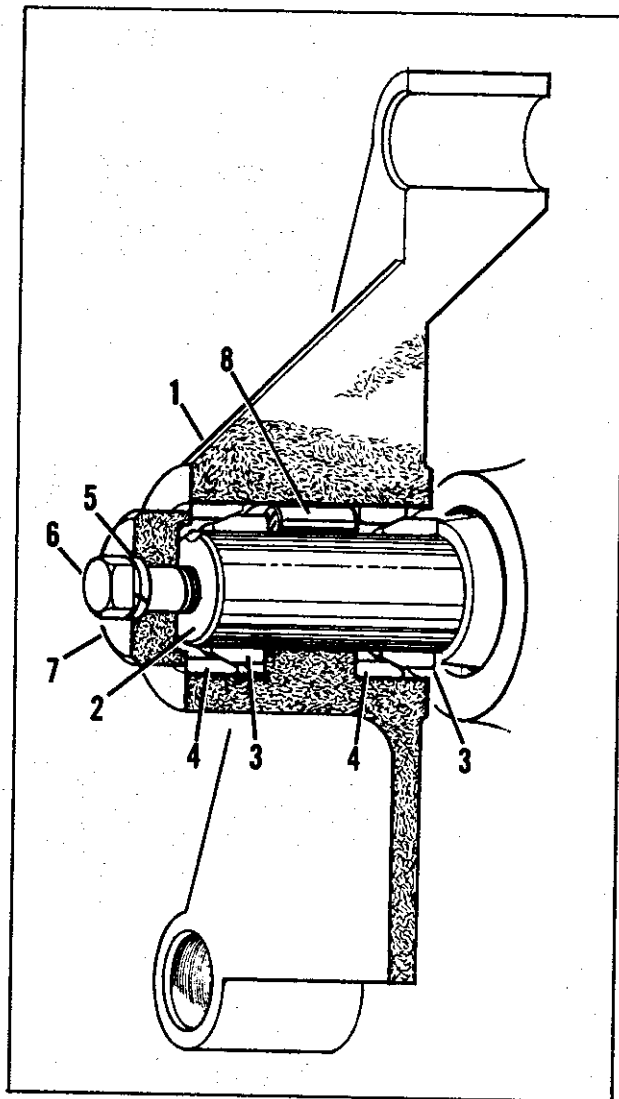

Figure 3-4. Gripspring Installation
c. Gripsprings: During reassembly of the compressor, it is essential that the gripsprings (59, Fig. 5-4) be installed in the correct sequence. Improper installation of the gripsprings will result in slippage between the shaft (86, Fig. 5-4) and the coupling (54), and cause excessive wear. Refer to Figure 3-4 and assemble the gripsprings as follows:
(1) Install smaller gripspring (3) on shaft (2) with beveled edge out.
(2) Position larger gripspring (4) over gripspring (3) so that the beveled edges meet.
(3) Install key (8) on shaft. Slide coupling (1) on shaft and over key and gripsprings until it seats.
(4) Position second small gripspring (3) on shaft with beveled edge out.
(5) Install second large gripspring (4) over gripspring (3). Be sure bevels agree.
(6) Position gripspring retainer (7) and secure with washer (5) and bolt (6).